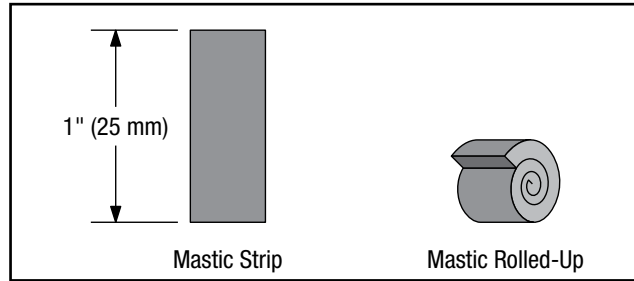
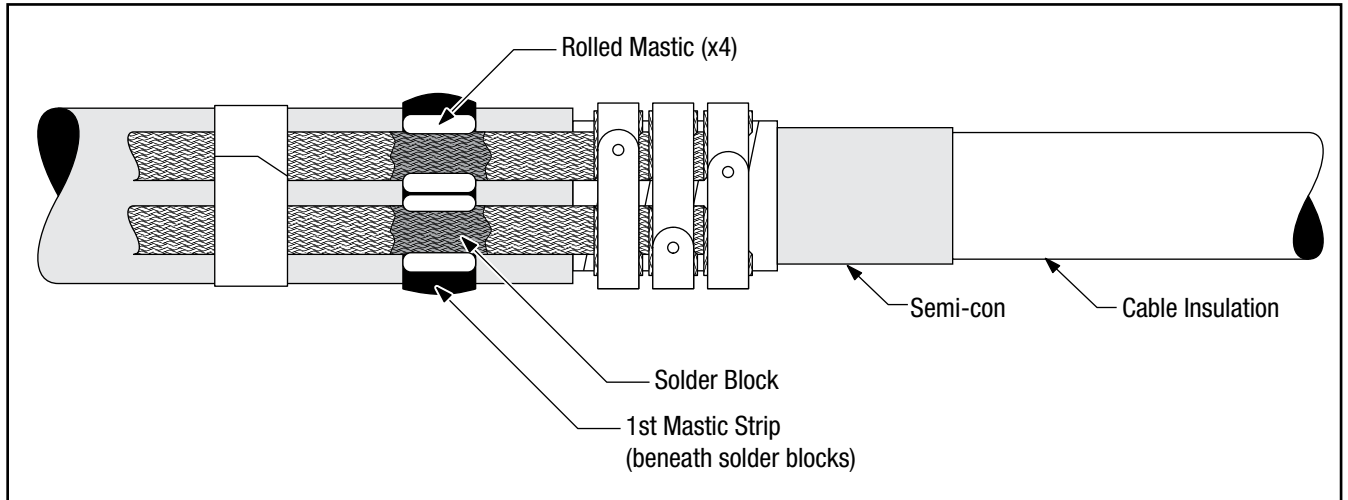

Figure 6
Figure 7
- 2.6 Cut four 1" (25 mm) lengths of 1" (25 mm) wide 3M™ Scotch-Seal™ Mastic Tape 2229. Remove the release liner and roll each mastic strip into a small roll. (*Figure 6*) Press the mastic rolls into place on either side of the ground braid solder blocks. (*Figure 7*)